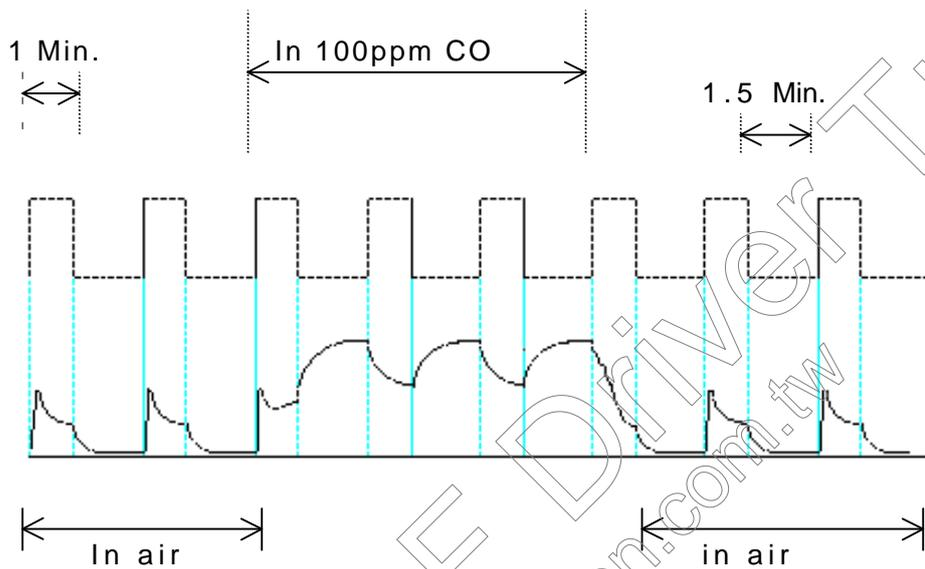

Fig. 4
Base on Fig. 2 circuit, Fig. 4 is the signal output curve when the sensor is moved from clean air to carbon monoxide (CO) gas environment. Those data was measured after heating period 2.5 minute from high voltage to low voltage.